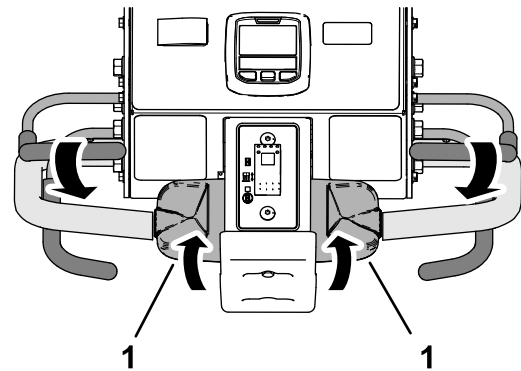

Figure 97
3. While holding the operator-presence bail to the handlebar, slowly rotate the top of the traction control rearward (Figure 97).